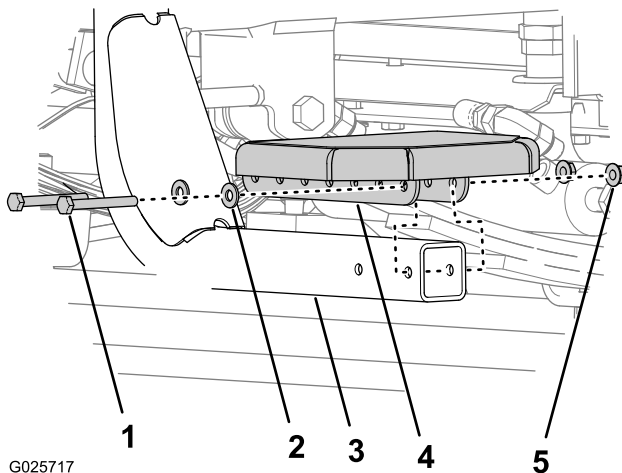

Figure 3
1. Align the 2 holes in the step with 2 of the holes in the end of the step mount (Figure 3).
2. Secure the step to the step mount with 2 hex-head bolts (1/4 x 2-1/4 inch), 2 flange nuts, and 2 washers (Figure 3).